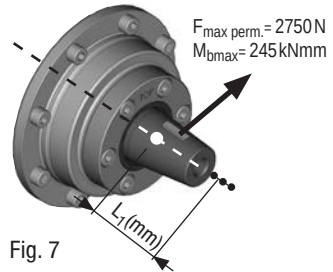

Fig. 7
- The force applied at the force engagement force by the belt tension (see Fig. 7) must not exceed $F_{\text{max perm.}} = 2750 \text{ N}$.
- If the force engagement point shifts forwards (see Fig. 7, small point), the force $F_{\text{max perm.}}$ reduces as per the following formula: